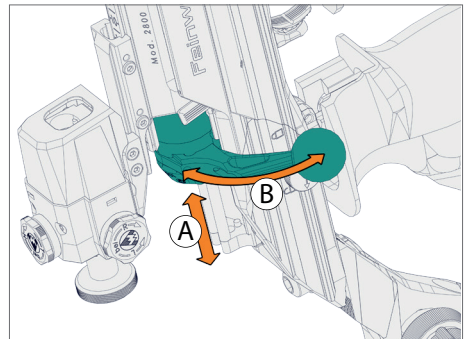

Fig. 4
- Hold the gun with the muzzle pointing upward and slightly above your head (Fig. 4).
- Close the bolt (Steps A and B, see Fig. 4).
- Open the bolt. (Steps B and A, see Fig. 4).